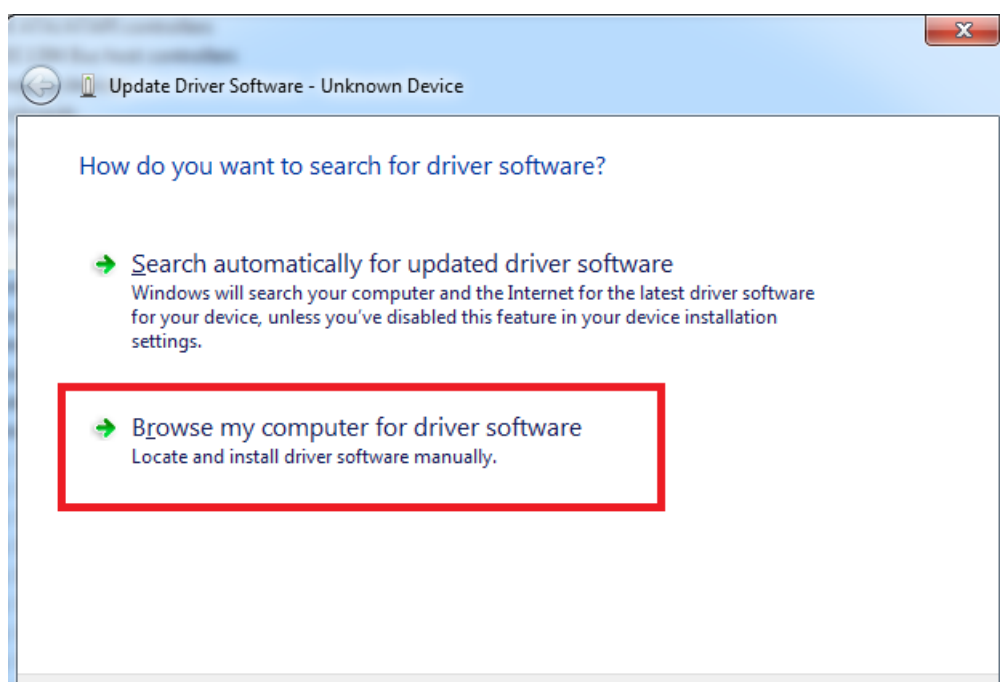

Fig. 6.2. Device driver software update message
- Press "Update driver software"; screen as in Fig. 6.2. should appear: